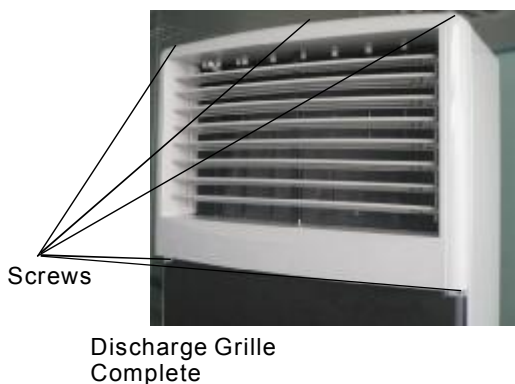

Fig 12
4.Loosen the five screws of the discharge grille and pull out the discharge grille.(Fig 12)